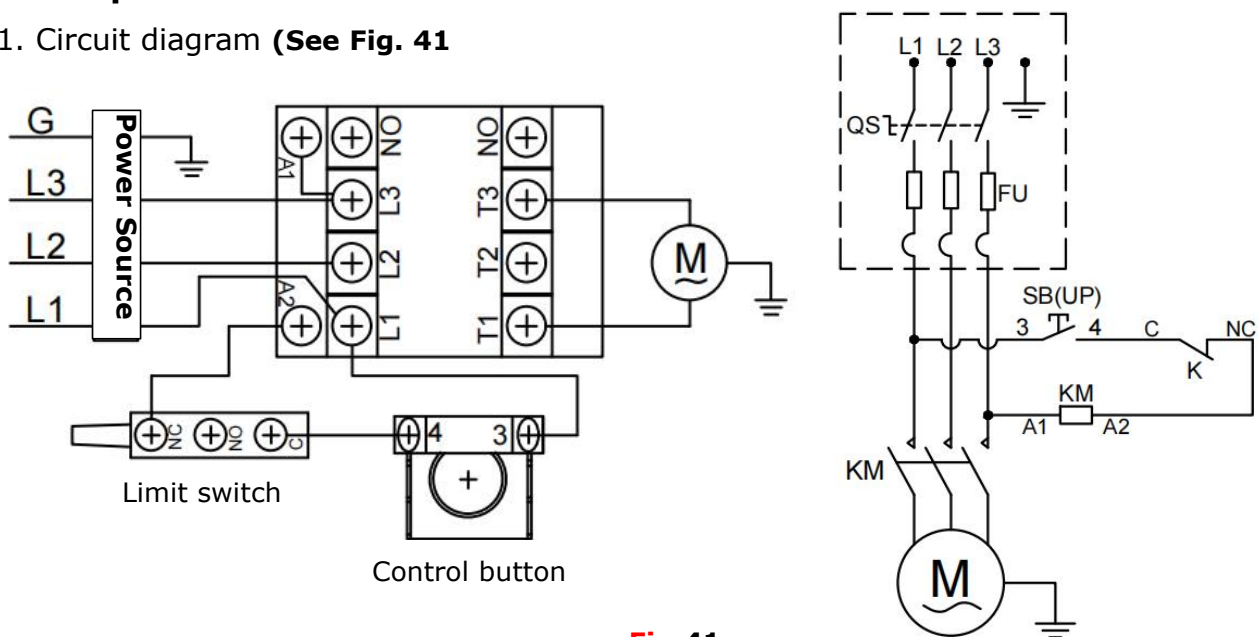

Fig.41
1. Circuit diagram (See Fig. 41)